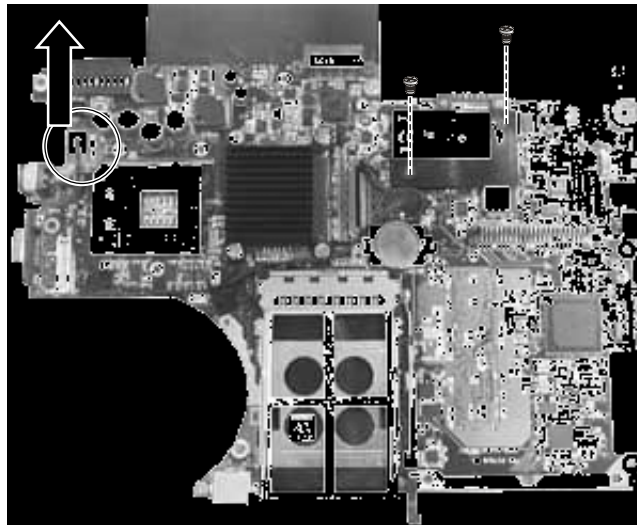

Figure 2-26 Remove the Modem card
3. Remove the two screws fastening the modem card, and then disconnect the cable from system board. (Figure 2-26)